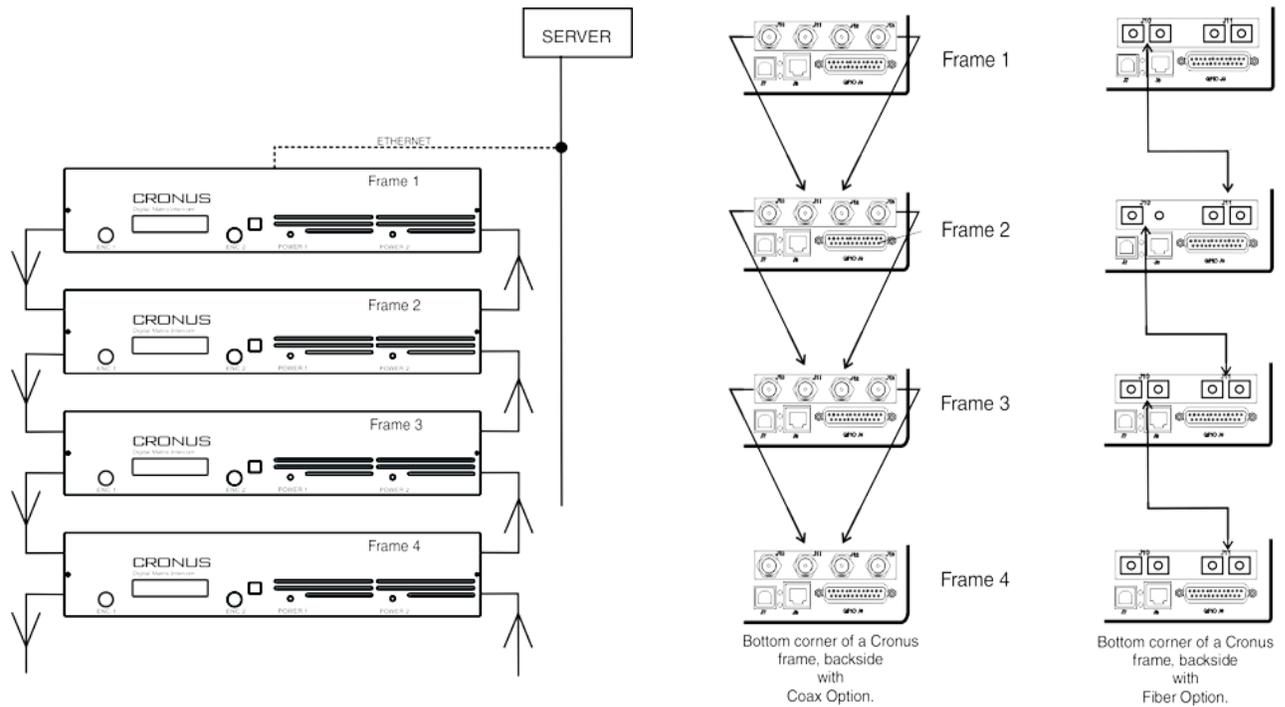

FIGURE 5. System Diagram and Frame Cabling
To cable Cronus, use the coaxial connectors located on the back panel (see Figure 2 on page 6). On the first frame connect the two (2) outside coax ports to the two (2) inside coax ports on frame 2. For more information, see Figure 5 on page 11. This determines the master frame and the first slave. Repeat this procedure with the two (2) remaining frames.